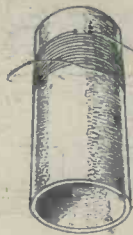

Fig. 1.—A plain solenoid type of winding, as shown here, has much to recommend it.
**C**oil design and construction are very extensive subjects, therefore, in view of the number of requests received for *practical* help and, as space and time are important factors, reference to theoretical considerations must be brief. The general requirements should be appreciated, and these can be summed up in the following manner: When we speak of coils in connection with radio apparatus, we have in mind components which, by virtue of their construction, possess a certain value of inductance. This value is usually a fixed quantity, but it is normally used in conjunction with a condenser the capacity of which can be varied, thus allowing the complete circuit to be tuned to any desired frequency or wavelength according to the formula:  $\text{Wavelength } (\lambda) = 1884.9 \sqrt{LC}$ . when L equals the inductance of the coil in microhenries and C equals the capacity in microfarads. Although capacity is essential in this consideration, it is equally essential to avoid its presence in the coil itself or, in other words, the construction must be such that the coil has very low "self-capacity." If this vital point is ignored, the overall efficiency and characteristics of the tuned circuit will be directly affected, and this applies in particular to short-wave components. The best way to avoid self-capacity is to use coil formers of reasonable diameter and, wherever possible, single layer windings (Fig. 1). Other detrimental items are resistance, poor insulation, fragile construction, and H.F. losses.